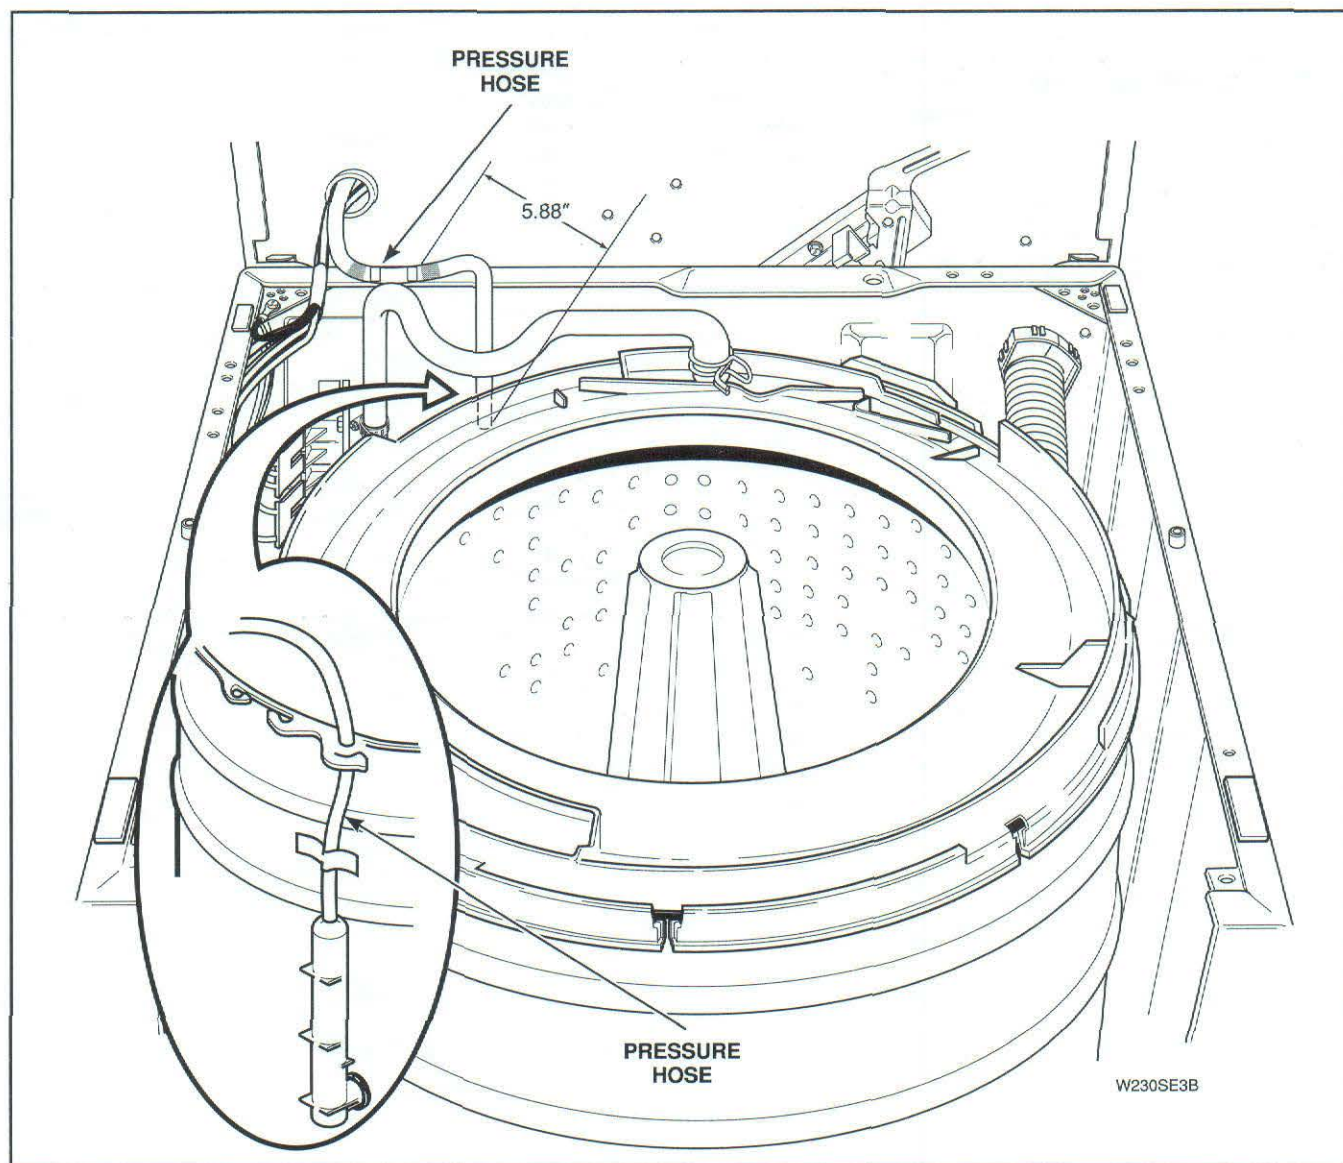

Figure 57
- Route pressure hose as shown in *Figure 57*. Then route pressure hose back up through hole in the cabinet top.